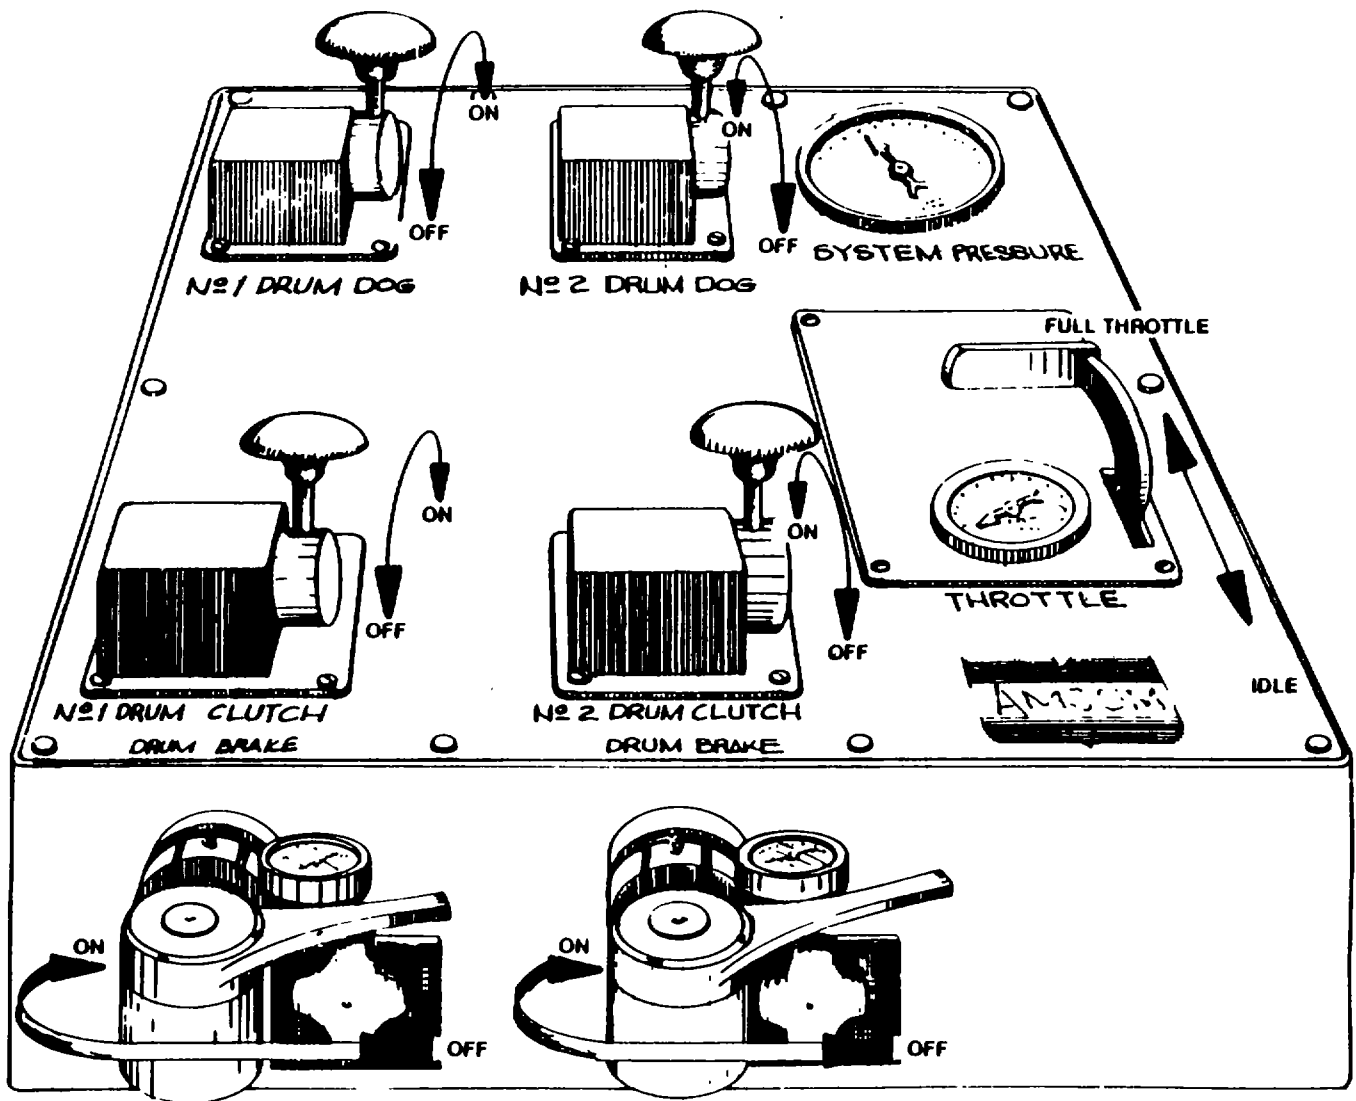

Figure 2-2. Winch Controls.
- b. The winch controls are illustrated in figure 2-2.
b. Operating Speed. Adjust speed of winch with throttle lever (Fig. 2-2) which is connected through an air line and mechanical linkage to engine governor. Thereafter, the speed selected is maintained by engine governor.